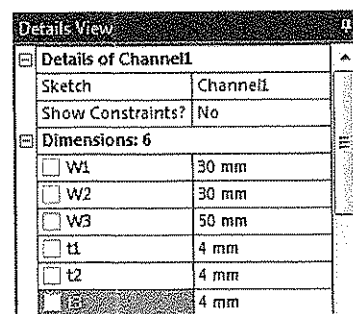
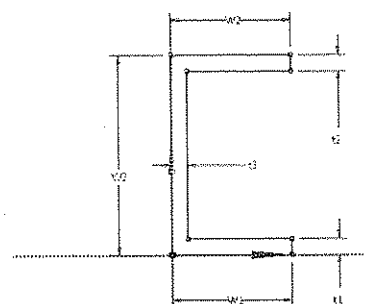

Figure 4-8 The values to be entered in the Details View window
Figure 4-9 The channel section after changing the values
2. Change the dimensions value in the **Details View** window, refer to Figure 4-8. The final cross-section should be same as shown in Figure 4-9.